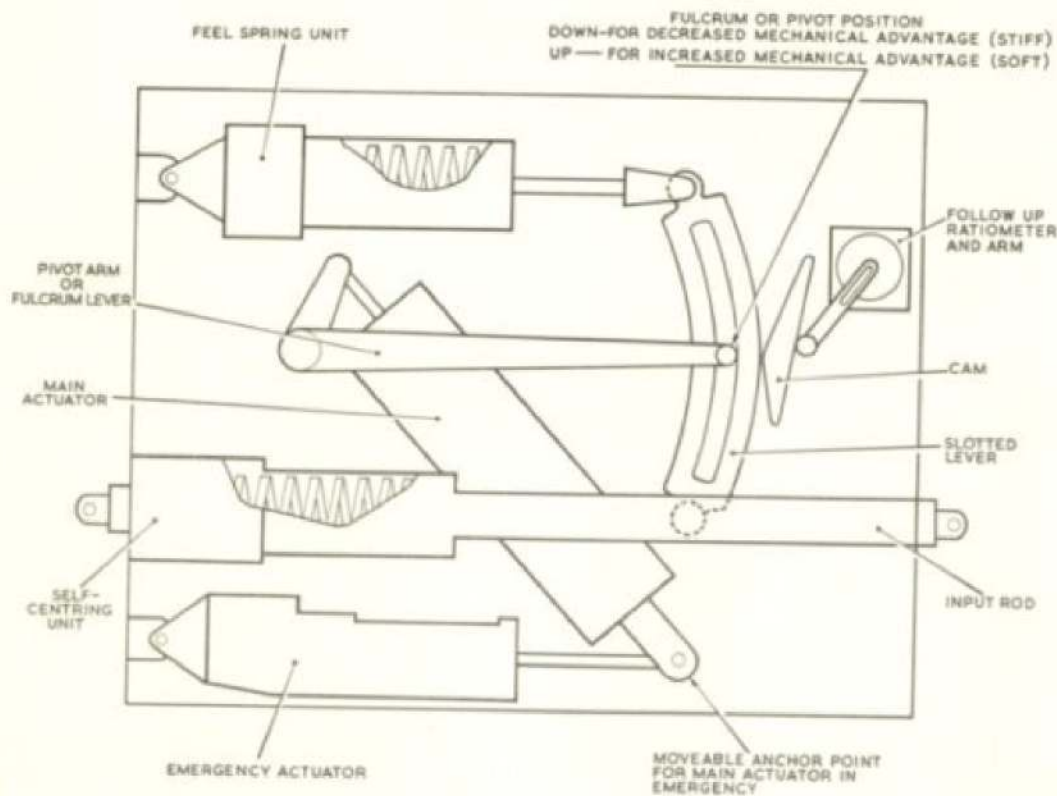

Fig. 1. Simplified diagram of feel unit
2. To service and test the feel unit, the operator must be fully conversant with the mechanical and electrical operation of the system. This information is contained in Sect.3, Chap.4 and Sect.5, Chap.1, Group 6 of this publication. The feel unit is shown diagrammatically in fig.1.